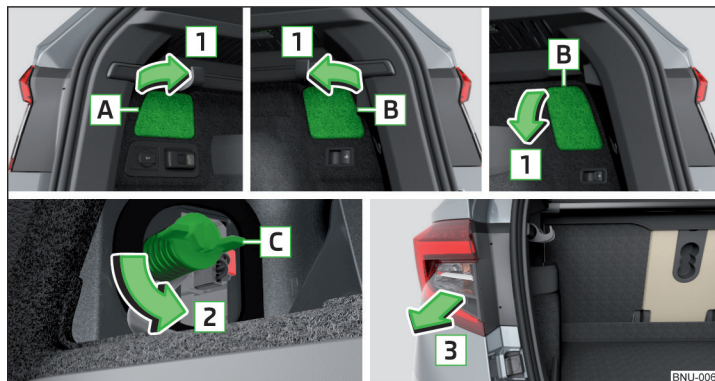

Fig. 352 Removing the pop-up version for the cap / light
- Open the respective cap **A** or **B** in the direction of arrow **1** » Fig. 352. The pop-up versions for the right cap **B** are different depending on equipment fitted.
- Tighten screw **C** in the opposite direction to arrow **2** » Fig. 352.